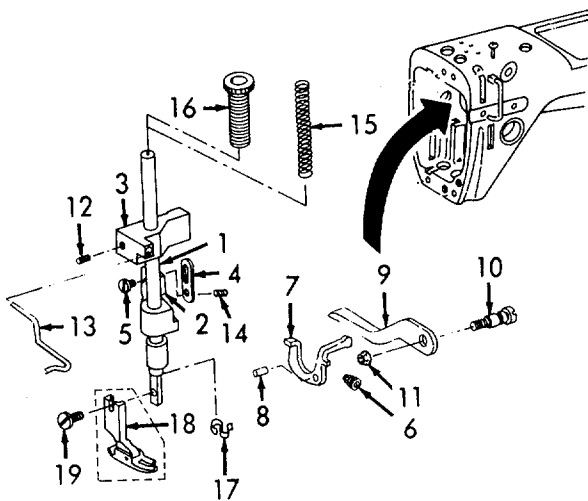

Figure 6-67. Presser Bar, Installation.
- (7) Refer to Figure 6-67. Install the presser bar (1) into the arm and through the lifter bracket (2) and the guide bracket (3).
- (8) Install the link (4) and screw (5).
- (9) Install the spring (6) and tension release lever (7). Use a drift and install the pin (8).